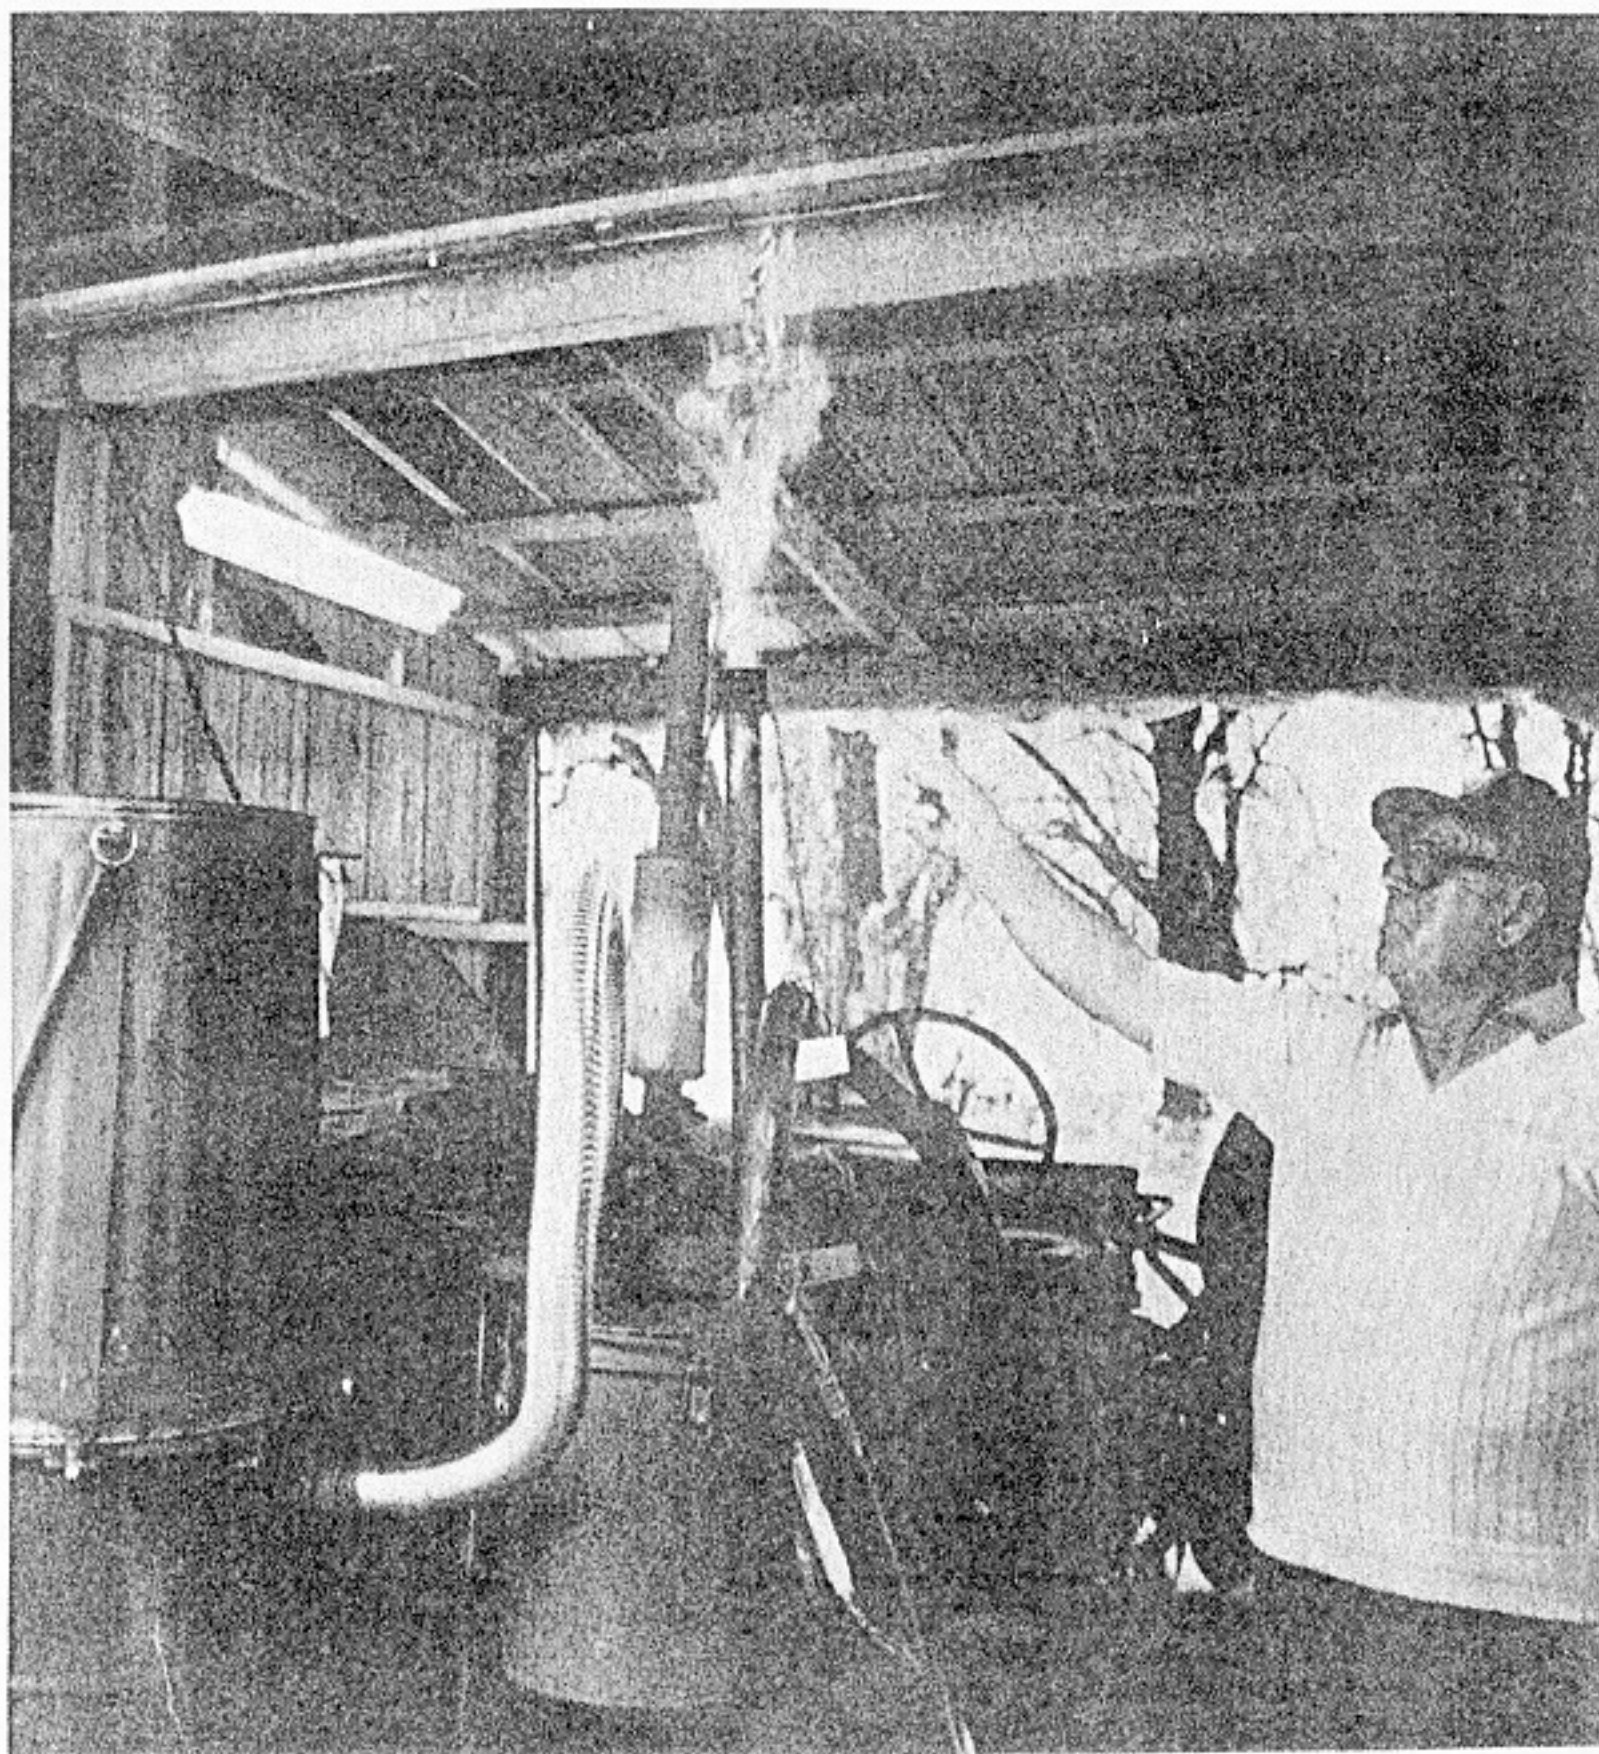

Fig. 3-3. Igniting the exhaust gas will demonstrate that the gasifier unit is working properly.
6. After a few minutes of smoky exhaust, test the gas at the blower exhaust by safely and carefully attempting to ignite it; see Fig. 3-3. When the gas burns consistently well, stop the blower and replace the cover on the blower exhaust.
7. Open the carburetor's air control valve, adjust the engine's accelerator, and start the engine in a normal manner. Let the engine warm up slowly (two to five minutes). If the engine fails to start or dies repeatedly, restart the blower and repeat the ignition sequence from Step (4).